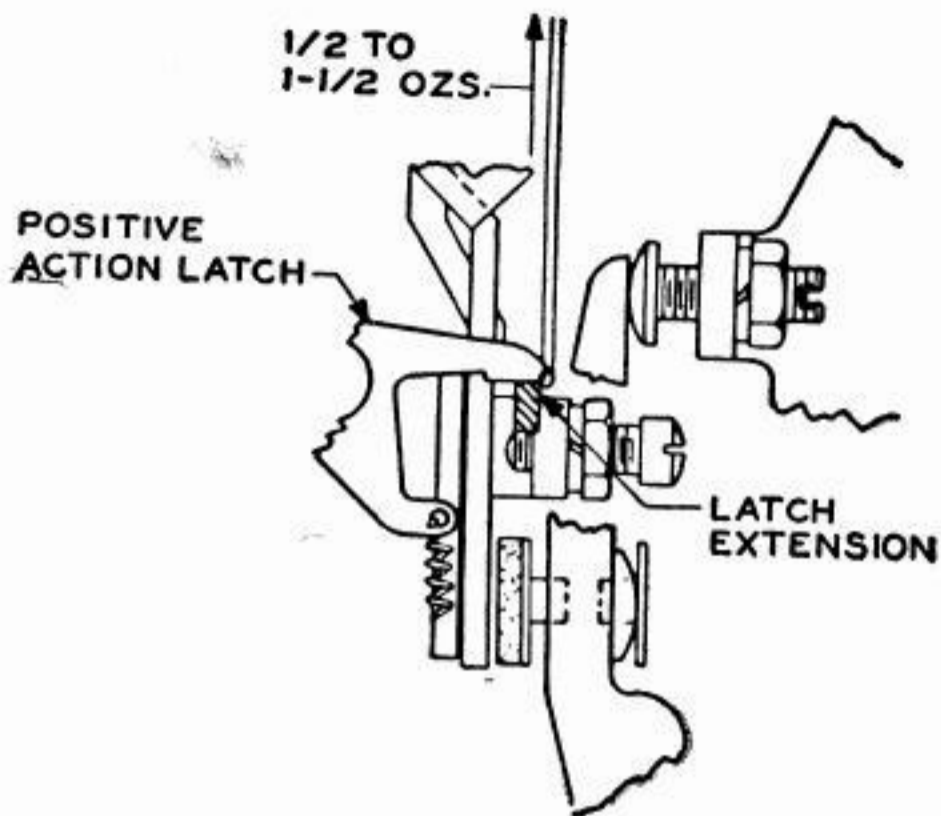

Fig. 17
2.30 **Positive-action latch spring** should require a pull as specified in the figure to just start the positive-action latch moving away from the latch extension, when the punch-contact operating lever is resting against its backstop screw and the positive action latch is resting against the latch extension on the lever. **Fig. 17**